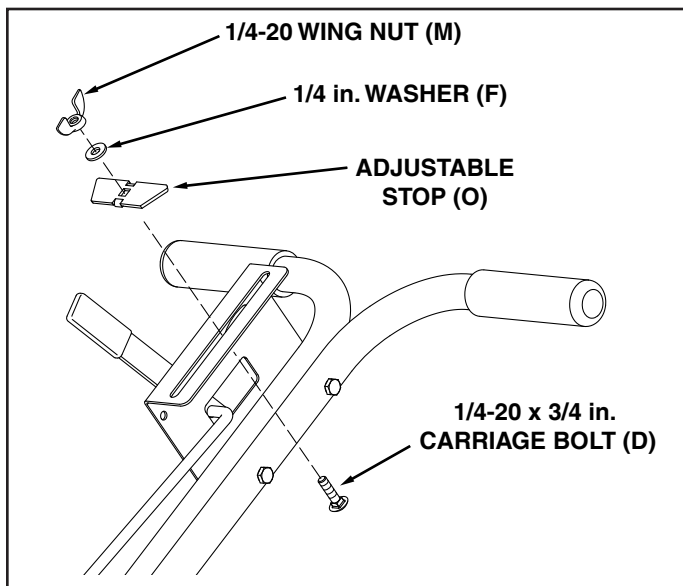

FIGURE 9
13. Install the adjustable stop on the slot in the top of the flow control mounting bracket. Secure with the 1/4 in. x 3/4 in. carriage bolt, a nylon washer, a 1/4 in. flat washer and the nylon wing nut. See figure 9.